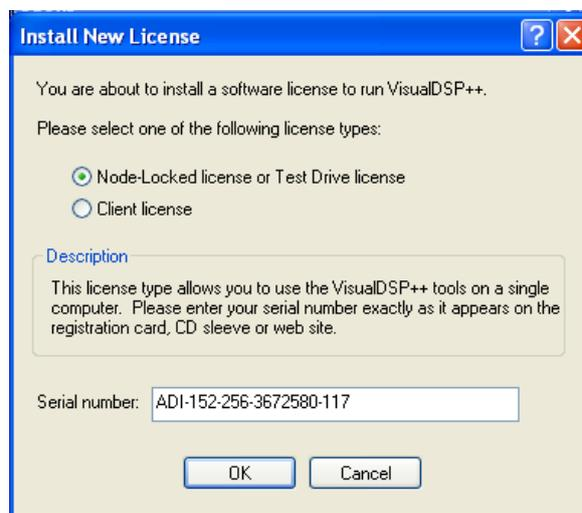

Fig.1-10 Install New License screen
4. Install New License screen appears. (fig.1-10) Select Node – locked license or Test Drive license